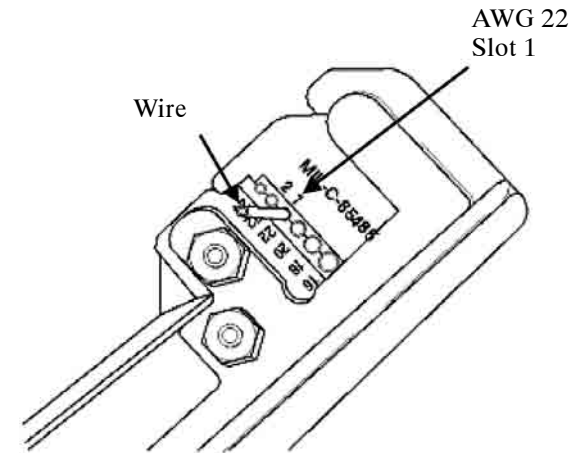

Figure 6. Step Stripping Outer Layer and Absorptive Filter Layer AWG 22
(1) Select the proper wire stripper from Table 1.
(2) Using the 22 AWG hole with the "1", remove the primary jacket and absorptive compound layer of the Filter Line Wire (Figure 6).